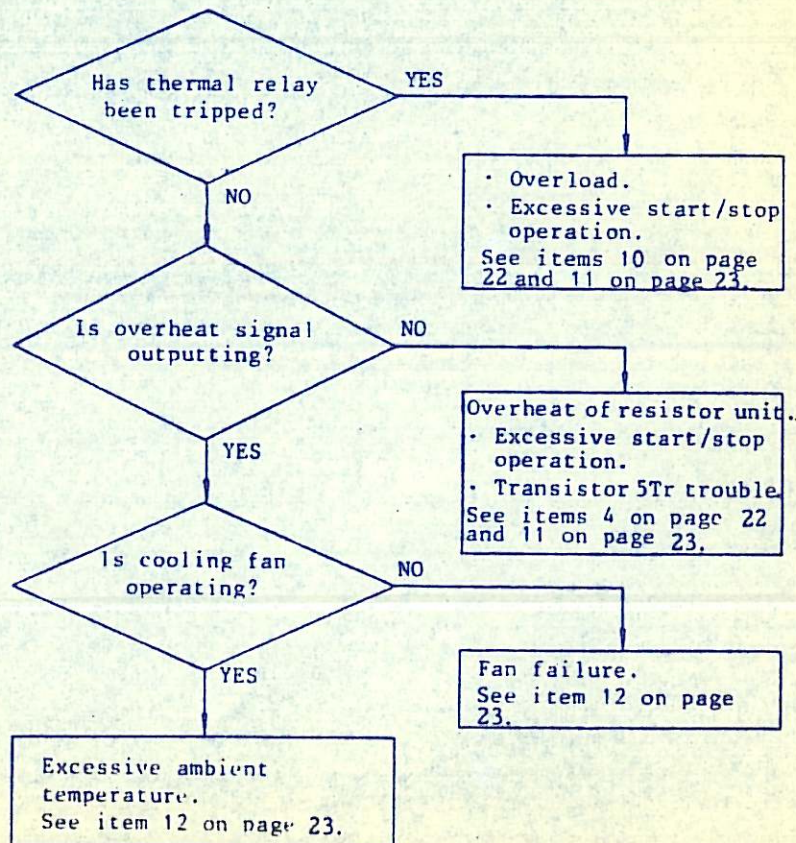

Fig. 14
- Main power is turned off during motor running. In this time, LEDs do not go on. See Fig. 14.